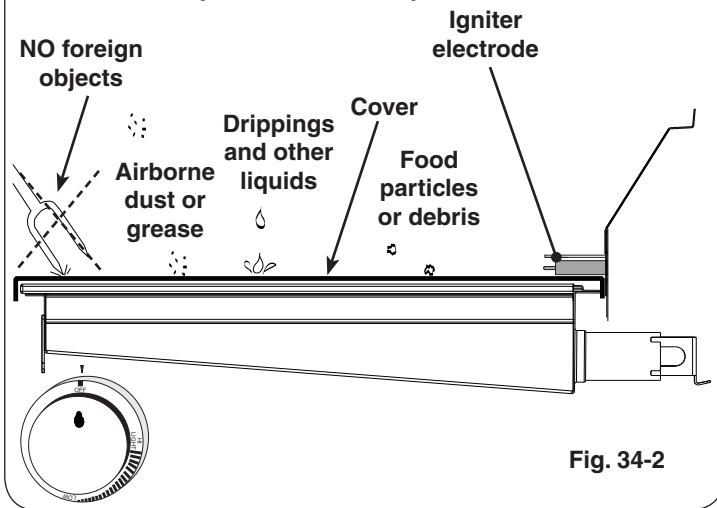

Fig. 34-2
- When not in use, **always** cover the infrared burner with the stainless-steel cover. This protects the burner from drippings (from other cooking), water, airborne particles, and foreign objects (Fig. 34-2).
- Do not strike or scrape the ceramic portion of the burner as it may chip, crack, or break (Fig. 34-2).